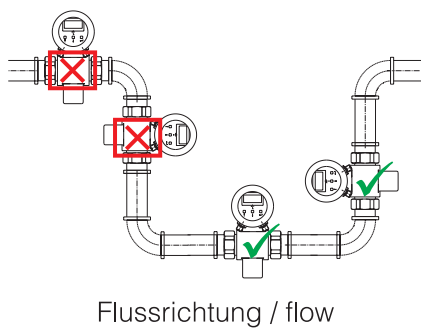

Fig. 3
- + in the case of partially filled pipes a culvert-like method of installation shall be provided (Fig. 3)